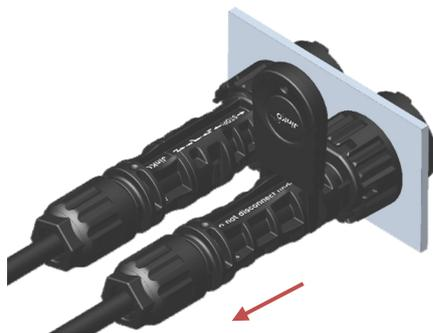

Figure 8
- ◇ 拉拔电缆连接器，即可分开公母连接器（如图 8&9）。
Pull the cable connector by hand respectively. The connector can now be separated (Fig.8&9).